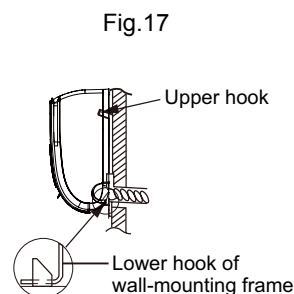

Fig.17
- (5) Check if the indoor unit is installed firmly and closed to the wall.(As show in Fig.17)